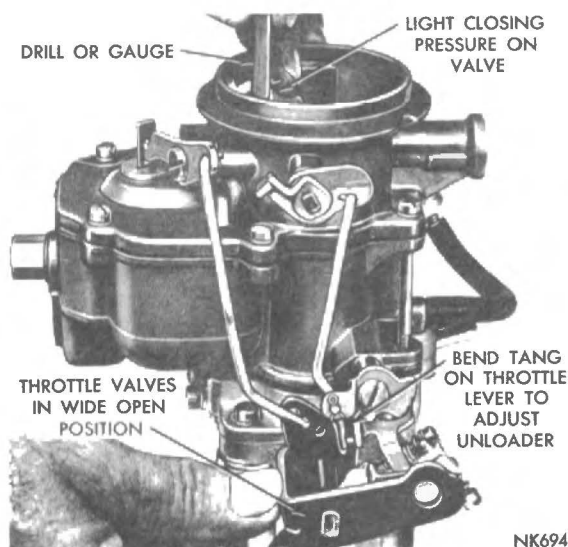

Fig. 16 Measuring the Choke Unloader Setting
(1) Hold the throttle valves in the wide open position. Insert Tool T109-31 or  $\frac{1}{4}$ " drill shank between the upper edge of the choke valve and the inner wall of the air horn, as shown in (Fig. 16).